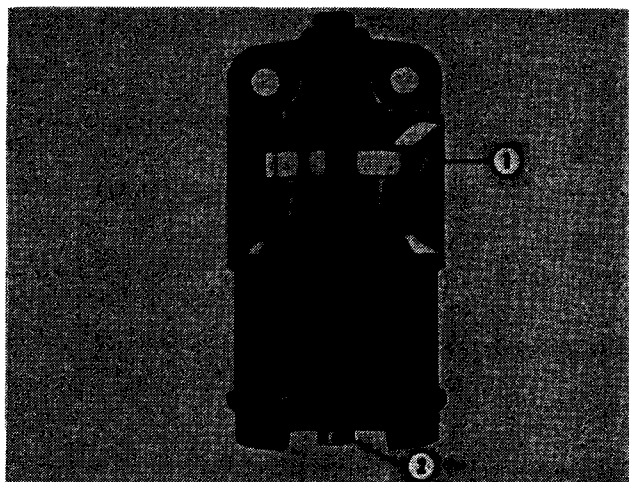

Fig. 10-2, (CGS-20). Air cleaner restriction indicator
1. The restriction indicator signals when to change cartridges. The red flag (1, Fig. 10-2) in window gradually rises as cartridge loads with dirt. Do not change cartridge until flag reaches top and locks in position. When locked, flag will remain up after engine is shut down. After changing cartridge, reset indicator by pushing re-set button (2). Push button all the way in firmly; then release. If button sticks, repeat pushing slowly.